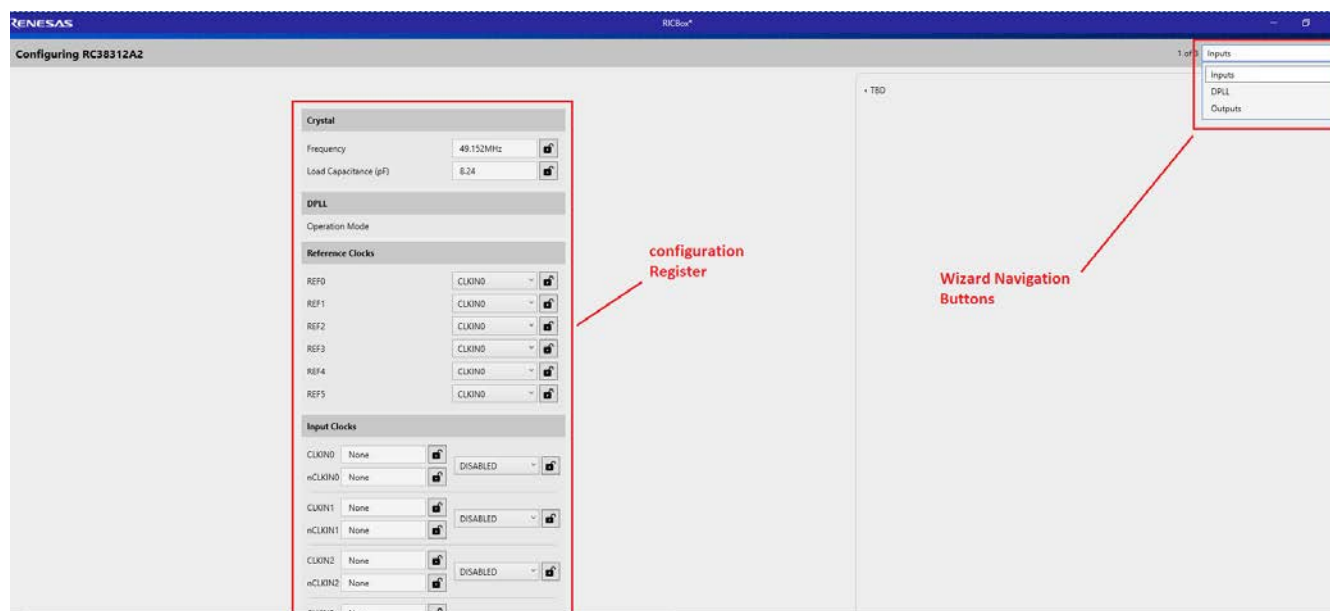

Figure 27. RICBox Wizard Navigation
5. Follow the on-screen wizard (see Figure 27) to configure the device for general evaluation starting from “Inputs”, then “DPLL”, and finally “Outputs”.